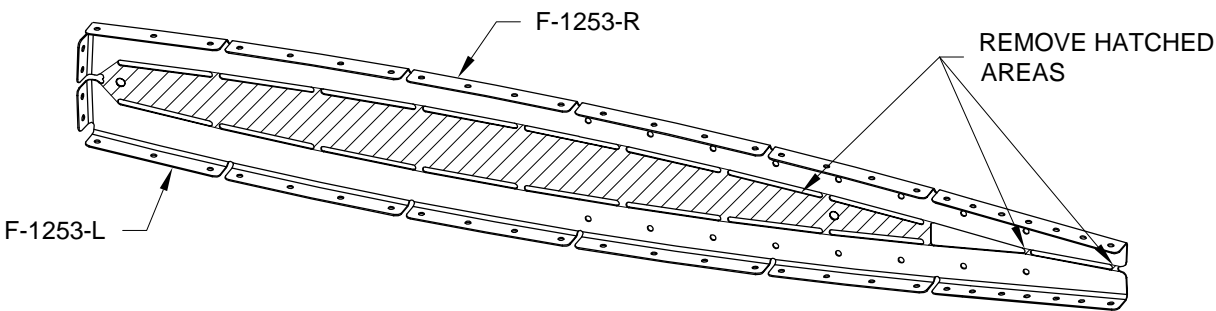

FIGURE 2: SEPARATING F-1253
Step 3: Separate F-1253 by removing the hatched areas shown in Figure 2.